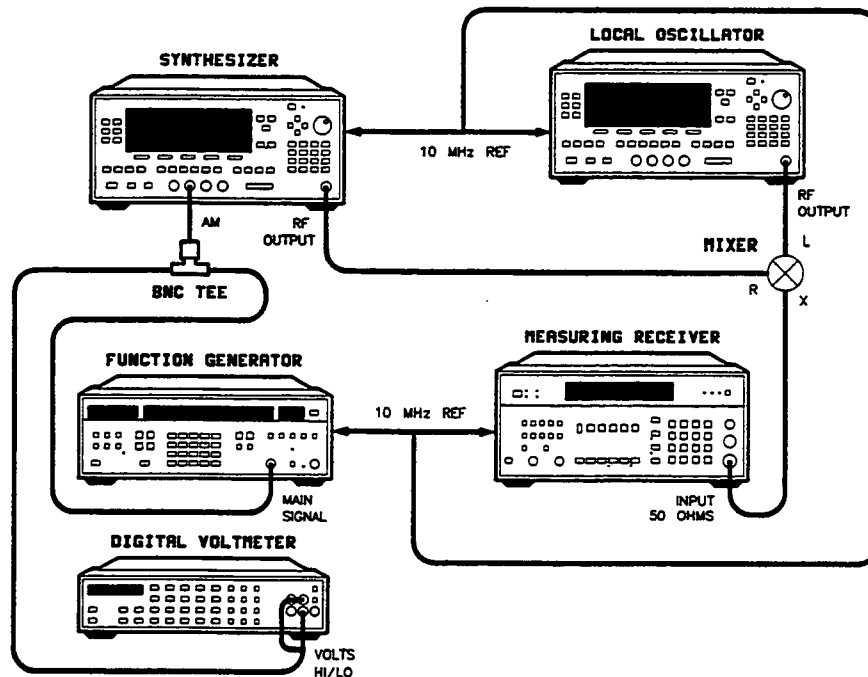

Figure 2-19. AM Accuracy Test Setup
1. Turn on the equipment shown in figure 2-19. Preset the instruments and let them warm up for at least one hour.
3. Connect the equipment as shown in figure 2-19.